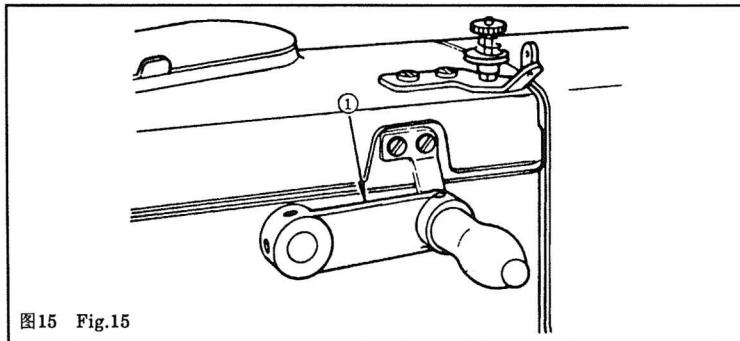

图15 Fig.15
13. 手动送料 Fig.15
13. MANUAL FEED HANDLE Fig.15